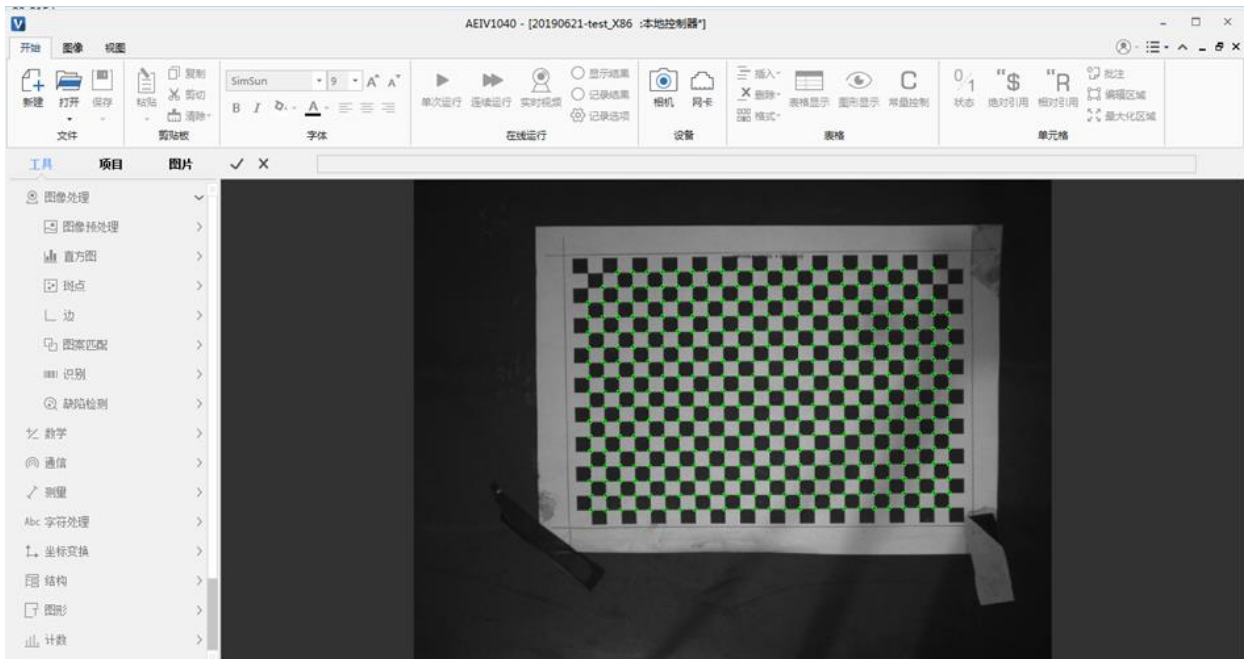

Figure 5-38 Chessboard calibration diagram origin calibration
Step11. Click <Select Origin>, the chessboard calibration chart appears as shown in Figure 5-38. Select one of the green points and double-click it as the origin of the visual coordinate system (it turns red after double-clicking).